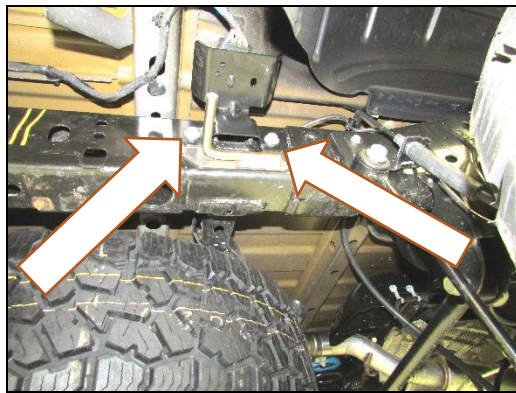

Figure 5
5. Go to the right side, remove (x2) bolts, install the supplied hanger bracket reuse the OE bolts, and tighten up bracket (**Figure 5**).